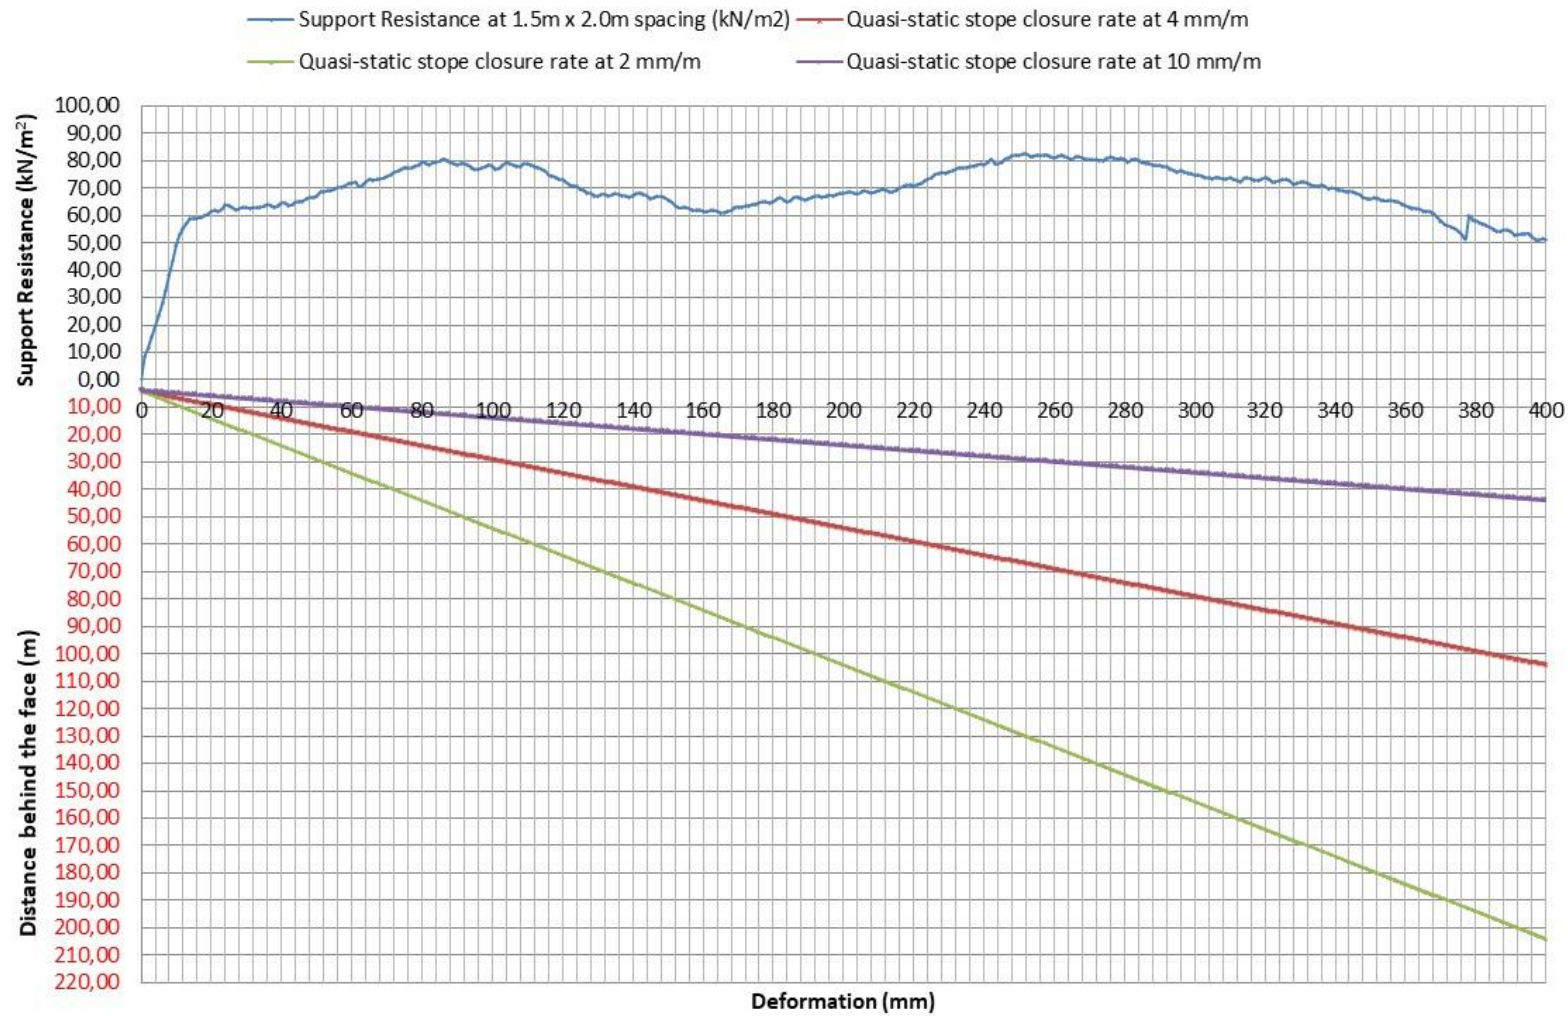

Figure 2 Support Resistance Design chart of the Timber Elongate with different closure rates.
- 4.1 A mine exploiting UG2 in tabular excavation stoping uses timber elongates and yield pillars as primary support in the UG2 stope panels. The timber elongates are installed 1.5 m on dip and 2.0 m on strike centre to centre. The corrected support resistance design chart at different closure rates for the timber elongates at 1.5 m x 2.0 m block pattern is shown Figure 2 in Appendix A. The information available to you includes the following:
- 4.1.4 From the calculated elastic closure in question 4.1.2, use the design chart in Figure 2 to estimate the support resistance the support unit bears. (1)